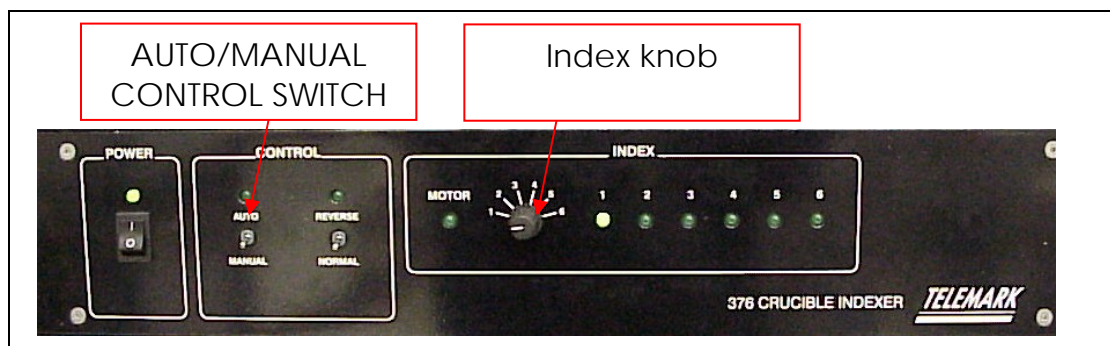

Figure 4-3: Telemark Crucible Indexer
1. **376 Crucible Indexer:** Switch control to “Manual”. See Figure 4-3.
376 Crucible Indexer: Rotate **Index knob** to the pocket number you want to load with a crucible and then wait for the pocket to rotate into place. Note that only index positions 1 through 4 are used. See Figure 4-3
- **376 Crucible Indexer** is switched to “MANUAL”. See Figure 4-3.
Follow the instruction on the **MAXTEK DEPOSITION CONTROLLER** to select the correct source by rotating the index knob on the **376 CRUCIBLE INDEXER** to the correct setting. See Figure 4-3.